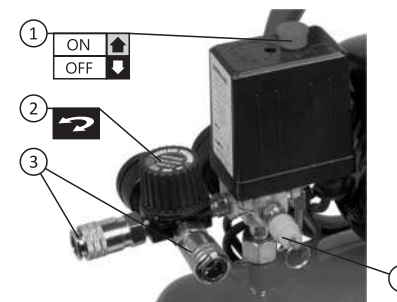

Fig. 4. Regulation of membrane switch startup and adjustment of pressure with reduction valve
6. Pressure of the compressed air at the output may be adjusted by the reduction valve. Pull up the roller of the reduction valve at 81-140, (at other compressors one need not pulling the roller up) and revolve it clockwise to increase the pressure (Fig. 4).
4. Open the output valve, put the membrane switch button in the position "ON" (Fig. 4) and start the compressor idling for 10 minutes, to make sure that all the moving parts are lubricated enough before the next operation.